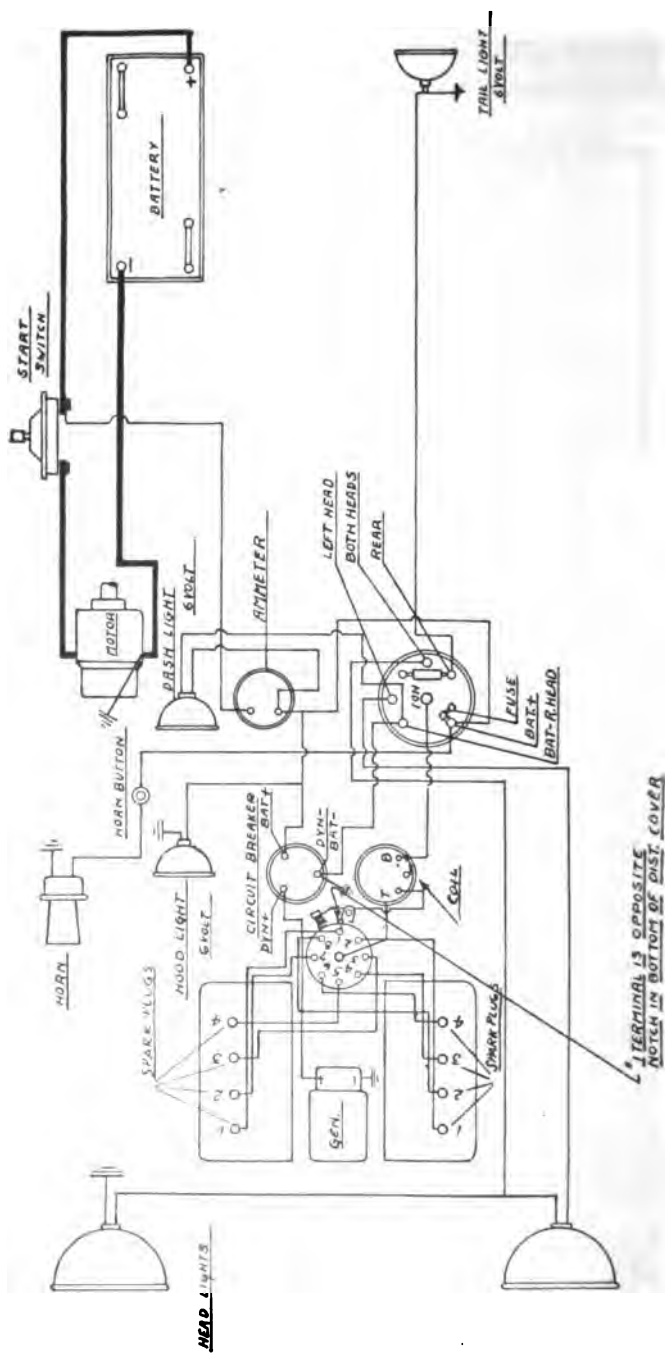
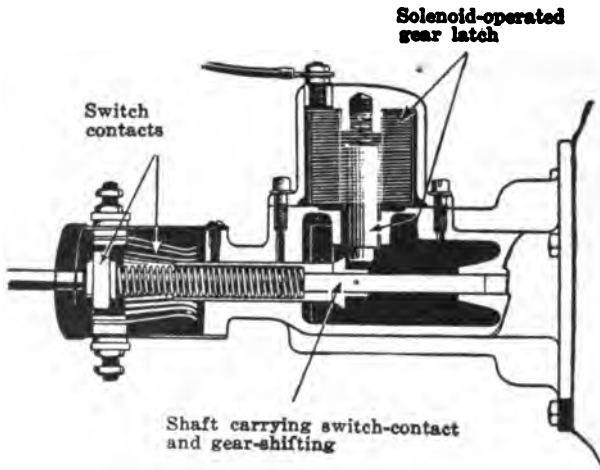

Fig. 221. Auto-Lite Starting Motor Used on Overland Models 80 and 81
Fig. 222. Sectional View of Auto-Lite Starting Switch and Gear Release
**Starting Motor.** The starting motor is a series-wound multipolar type having four salient poles, Fig. 221 (used on Overland Model 80 and Model 81). In this type the switch is combined directly with the motor, being mounted in a housing at the left end as shown in Fig. 221. It is also fitted with a special locking device, the details of which are illustrated in the sectional view, Fig. 222. One of the buttons on the control board on the steering column closes the circuit of the solenoid shown in this illustration; this causes the plunger to lift and release what is known as the *gear-latch*. The shaft carrying the switch also serves to shift the pinion on the end of the starting-motor shaft into mesh with the flywheel gear. A later and more widely employed type of Auto-Lite starting motor is shown in Fig. 223; this is installed on the Overland Model